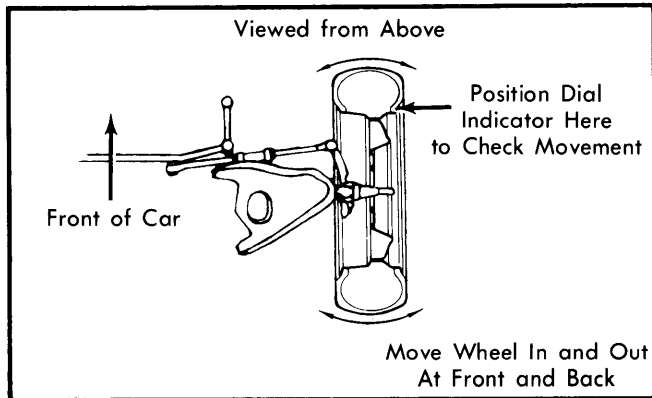

Fig. 1 Checking Steering Linkage
- 2) Steering linkage and suspension must not have excessive looseness. Check for wear in tie rod ends and ball joints. See Fig. 1.